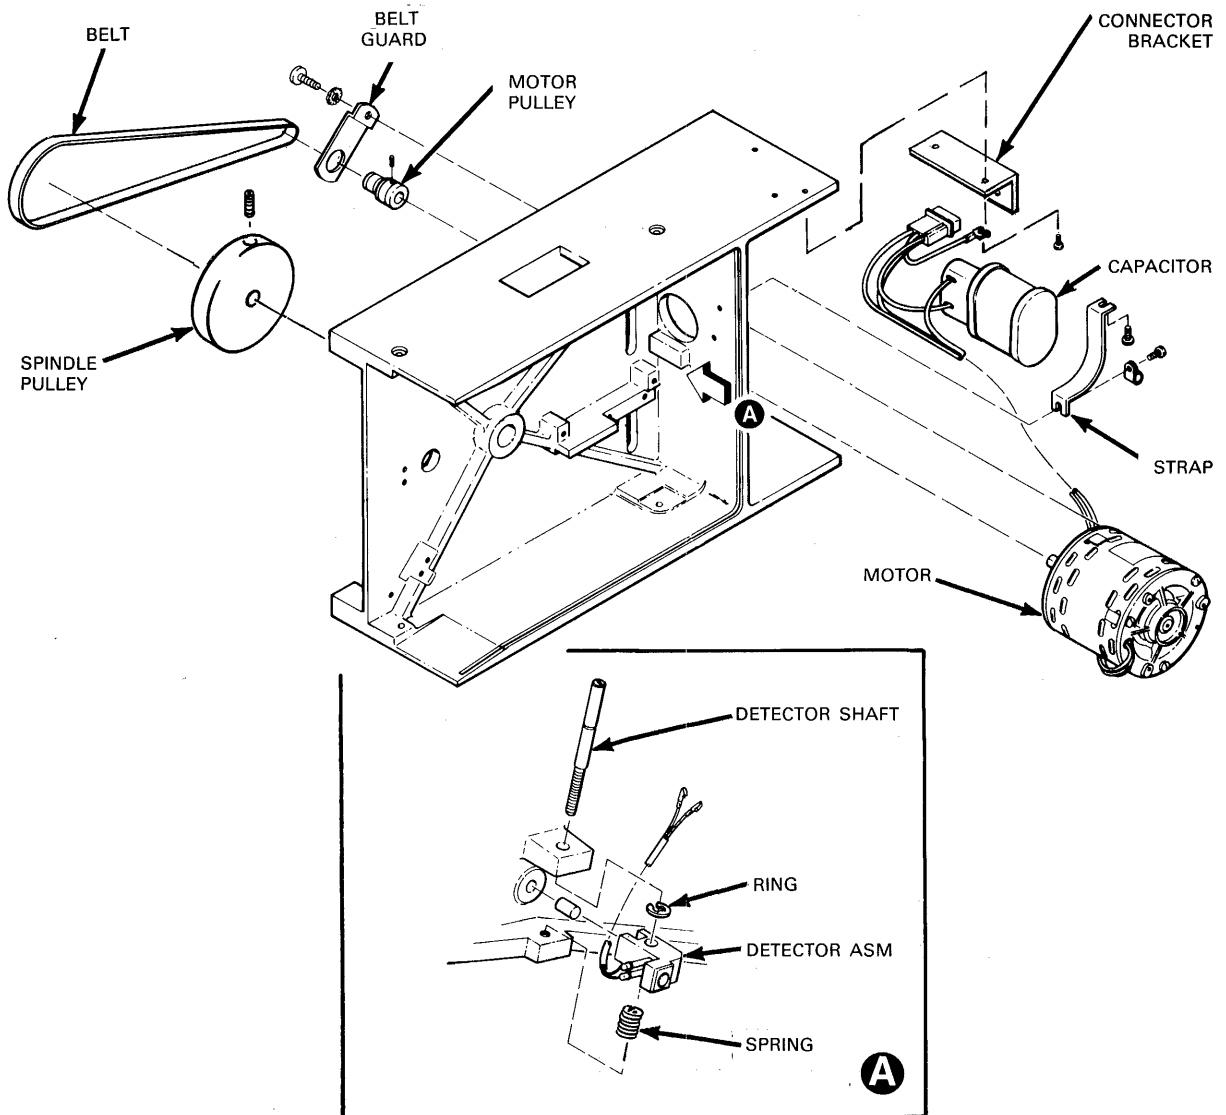

Figure 5-26. Drive Motor Assembly Removal and Replacement
2. Remove belt from pulleys (Figure 5-26).
1. Insert motor shaft and attached motor pulley through baseplate access hole, and position motor on baseplate (Figure 5-26).
1. Loosen set screw in pulley (Figure 5-26).
2. Engage pulley on end of motor shaft, directionally oriented according to preceding motor pulley description (Figure 5-26).